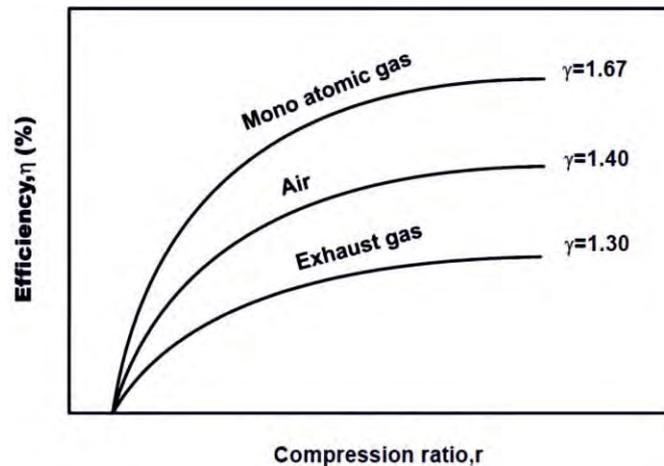

Fig. 7.4 Variation of Otto cycle efficiency with compression ratio
- Fig. 7.4 shows the variation of air standard efficiency of Otto cycle with compression ratio.